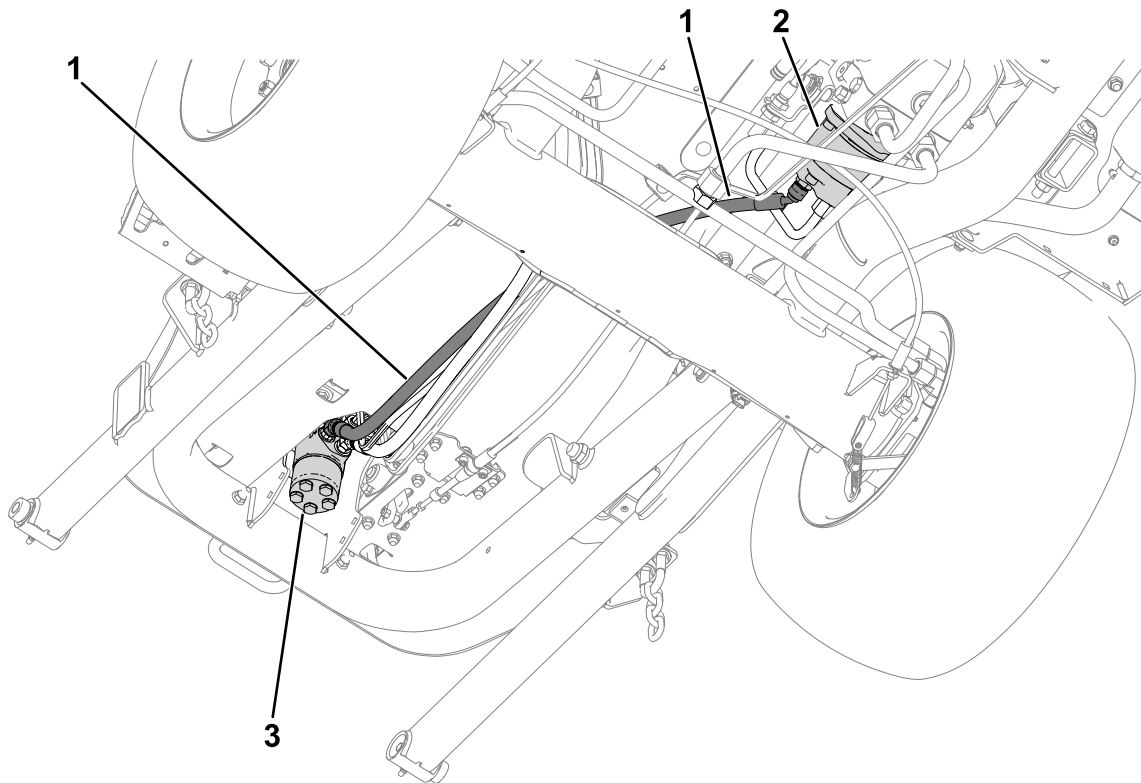

Figure 13
5. Ensure that the hydraulic hose is routed as shown in Figure 13.